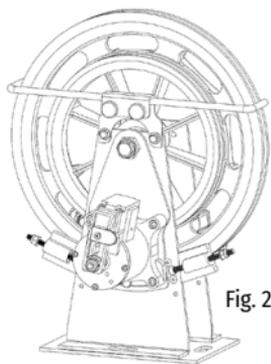

Fig. 2
- 1 pcs Overspeed governor Fig. 2